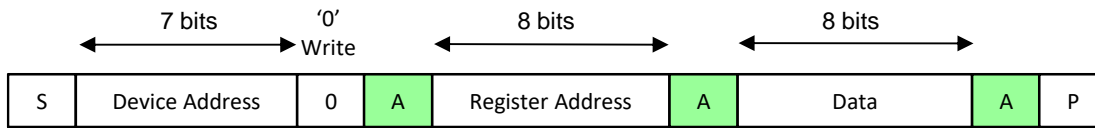

Figure 4. I²C Write – Slave Receiver Mode
1. **Slave Receiver Mode (Write Mode):** Serial data and clock are received through SDA and SCL. After each byte is received an acknowledge bit is transmitted. START and STOP conditions are recognized as the beginning and end of a serial transfer. Address recognition is performed by hardware after reception of the slave address and direction bit (see Figure 4 for Interface). The slave address byte is the first byte received after the master generates the START condition. The slave address byte contains the 7-KTD2150 address followed by the direction bit (R/W), which, for a write, is 0. After receiving and decoding the slave address byte the device outputs an acknowledge on the SDA line. After the KTD2150 acknowledges the slave address + write bit, the master transmits a register address to the KTD2150. This sets the register pointer on the KTD2150. The master may then transmit zero or more bytes of data, with the KTD2150 acknowledging each byte received. The address pointer will increment after each data byte is transferred. The master generates a STOP condition to terminate the data write.